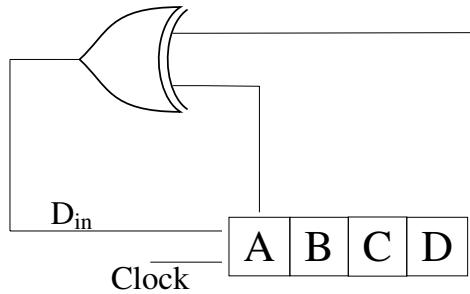

Fig. 5.16
16. A 4-bit shift register circuit configured for right-shift operation, i.e.  $D_{in} \rightarrow A, A \rightarrow B, B \rightarrow C, C \rightarrow D$ , is shown in Fig. 5.16. If the present state of the shift register is  $ABCD = 1101$ , the number of clock cycles required to reach the state  $ABCD = 1111$  is \_\_\_\_\_. (GATE EC 2017)